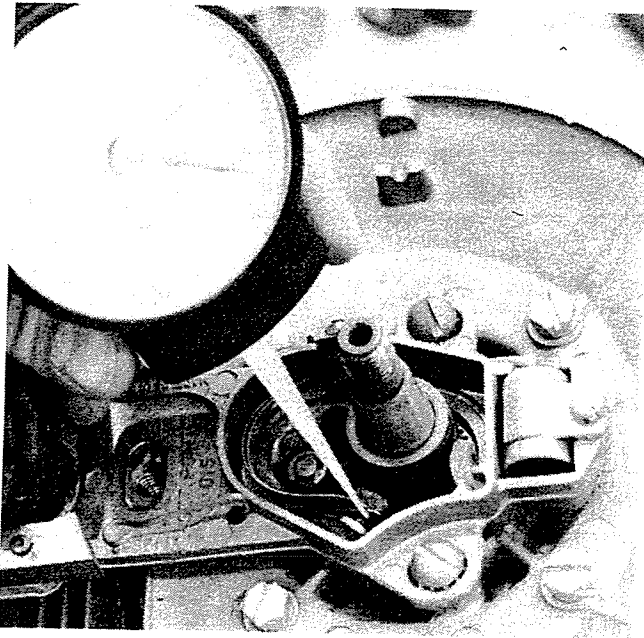

Figure 27. Checking Spring Tension.
3. Check breaker point spring tension. Tension must be 16 to 32 oz. measured at right angles to surface at center of contact, Figure 27. A breaker point with too little tension will bounce and cause ignition advance to vary and thus cause premature power head failure. A breaker point with too much